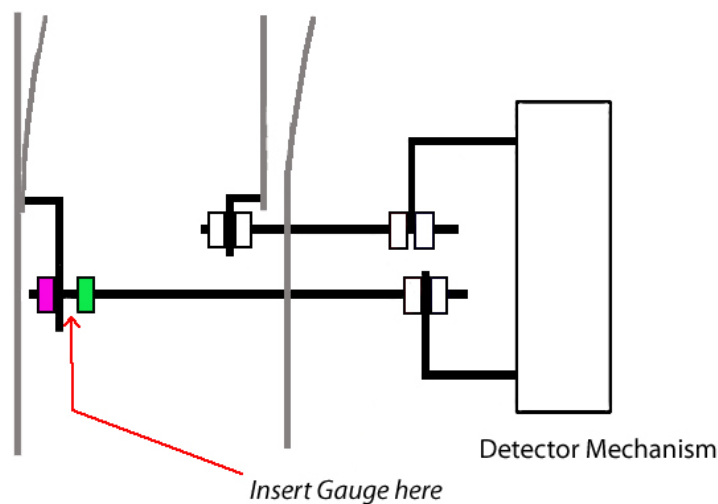

Figure 4 – Detector Mechanism (4)
- 2.11 Check the long detector rod is attached to the closed switch (Fig 4).